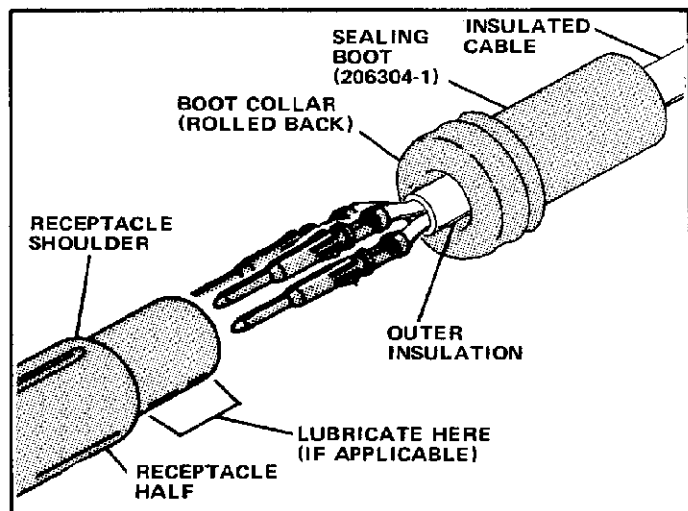

FIGURE 2
3. Roll the collar back over itself, turning it inside out as shown in Figure 2.
5. Push the collar forward until it butts against the shoulder of the receptacle. See Figure 2.
The sealing boot and receptacle collar need NOT be rolled back if suitable lubricant (LPS-1 or equivalent) is available. If lubricant is used to install the sealing boot, apply a thin film to the rear portion of the receptacle. If it is used to install the receptacle, apply a thin film to the inside of the receptacle flange. See Figures 2 and 3.